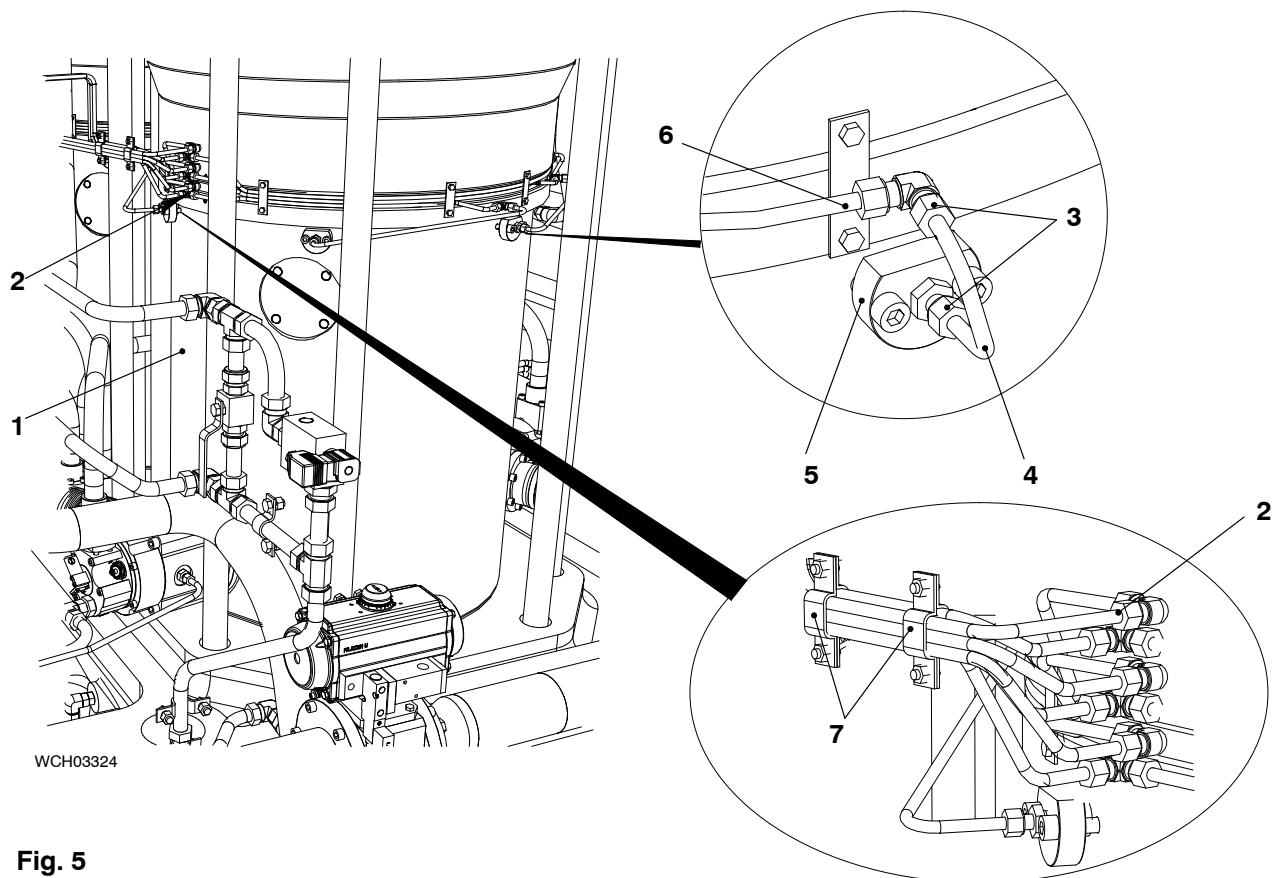

Fig. 5
- 6) Remove the plugs from the oil pipe (4, Fig. 5).
- 7) Connect the pipe (4) to the lubricating quill (5) and the applicable pipe (6).
- 8) Tighten the nuts of the screw-in unions (3).
- a) Remove the protection from the six pipes (2).
- b) Connect the six pipes (2).
- c) If necessary, attach the two holders (7) to the six pipes (2).
- 10) Bleed the oil pipes (2) refer to 7218, paragraph 3.2.